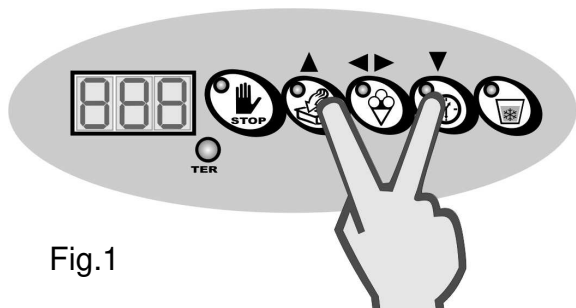
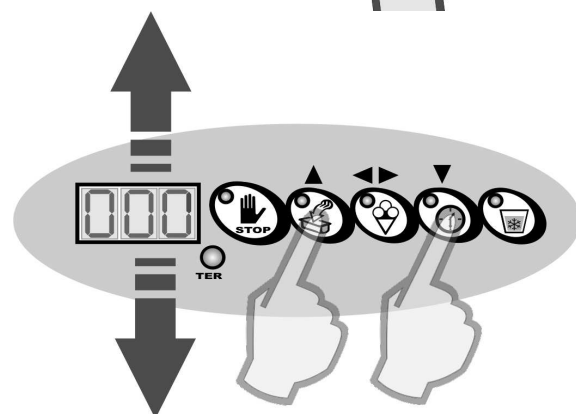

Fig.1
Fig.2
4. Press the “**UP**” and “**DOWN**” keys simultaneously until the password selection screen appears (fig. 1). Enter the password by increasing or decreasing the values via the UP and DOWN keys (FIG. 2), then press CONFIRM to validate the typed in password. If you do not know the password, contact the Frigomat assistance service.
6. If you do not wish to change the value of the selected step, press “**UP**” to directly access the following step. (fig. 2)